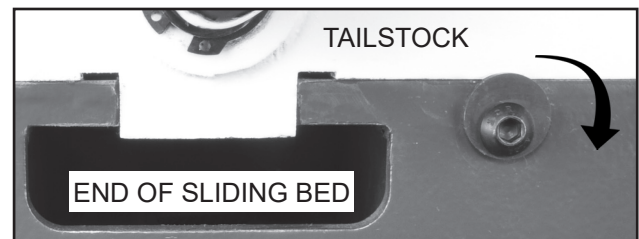

FIG. 5
- At the right end of the Sliding Bed, with a 5mm hex wrench loosen the Bolt (#C25) so that the offset Stop Washer (#C7) swivels down below the bed surface. Fig. 5.